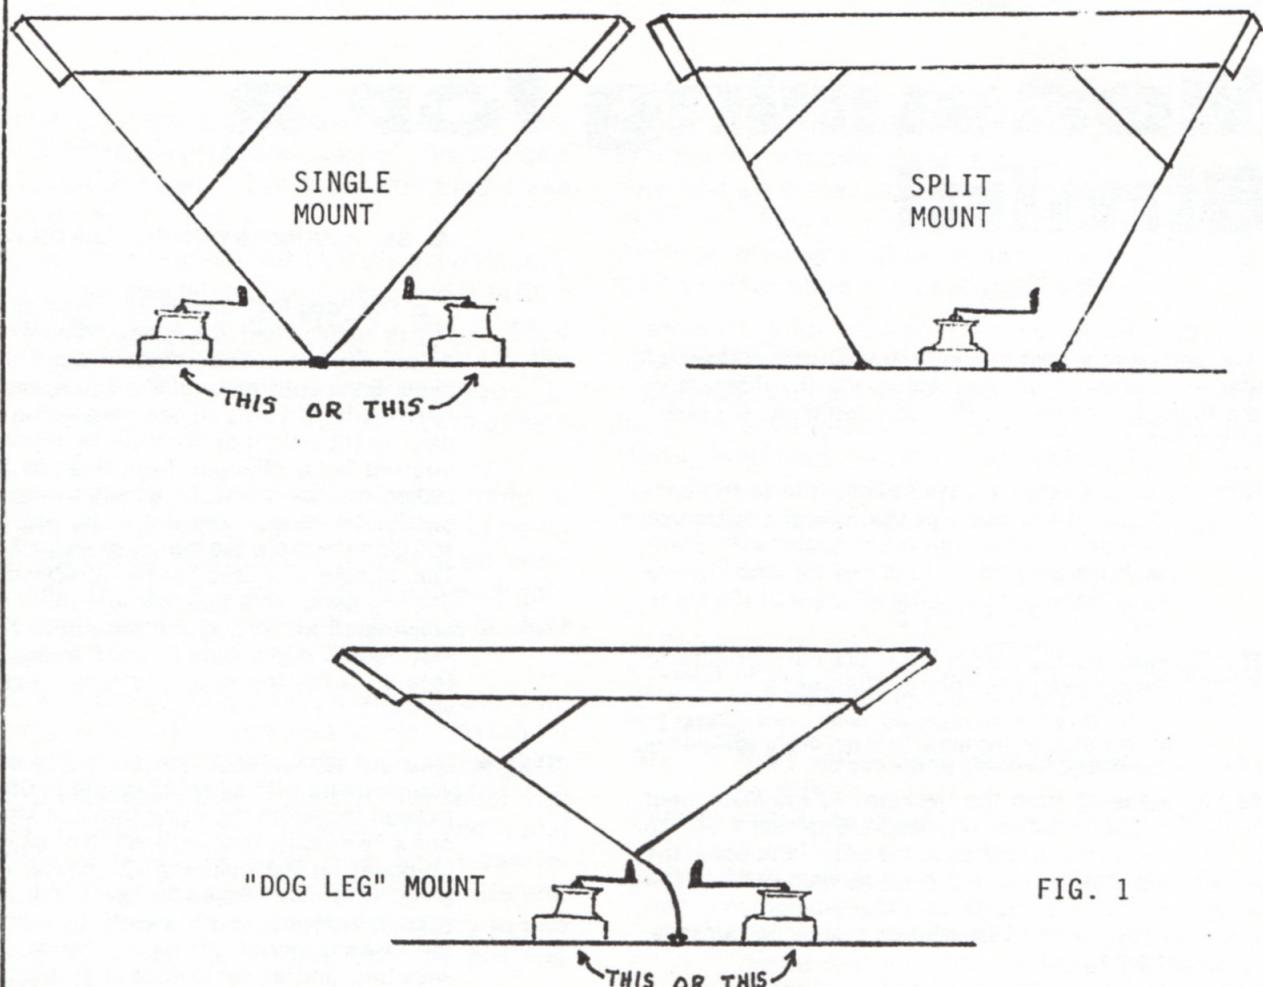

FIG. 1
There are three basic mounting methods for bimini tops (see Figure 1): **split mount**, **single mount**, and **"dog leg" mount** (which is a bend in the lower portion of the frame just above the deck mount). These different mounting methods can vary enough to accommodate most sailboats for bimini tops. To select the proper mounting arrangement you must know where the center of the length of the top is.
The stand was made to accept the sewing machine in its portable case, thus eliminating a very specialized cutout and needing a place to store the case. The wood cover can be placed on the machine while in the stand. There are also two trays or troughs to place in front and behind the machine stand, thus supporting sails and covers rolled up in scroll fashion. Figure 1 shows the sewing machine table with the troughs attached, thus presenting what will be constructed.
► FIGURE 1